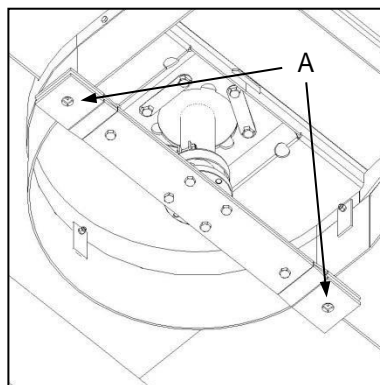

Fig. 9
- ✔ Check blade mounting holes (Fig. 9-A) for signs of wear, elongation, or fractures. In the event of any observed defect do NOT attempt a repair but provide immediate replacement of the defective item.
- ✔ Gaan lemmonteringsgate (Fig. 9-A) na vir tekens van slytasie, rekking of breuke. In die geval van enige waargenome defek, moet NIE probeer om dit herstel nie, maar vervang die defekte item onmiddellik.